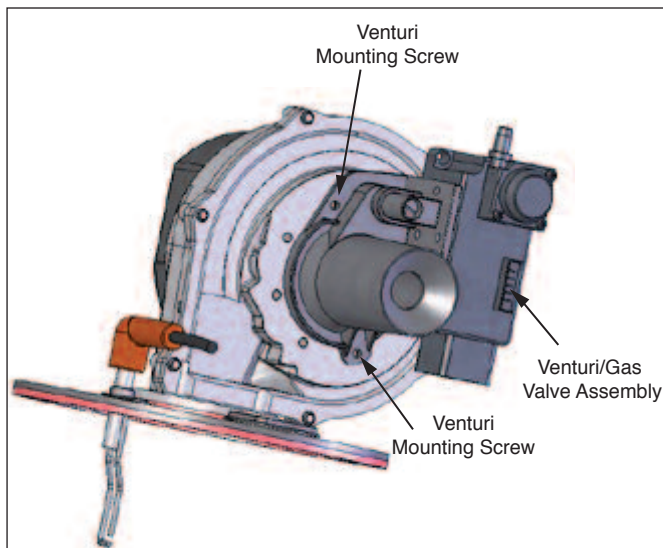

Fig. 2: Venturi/Gas Valve Assembly
8. Using the #25 Torx wrench from the kit remove the 2 venturi mounting screws attaching the venturi / gas valve assembly to the blower, see Fig. 2. Remove the venturi / gas valve assembly from the blower.